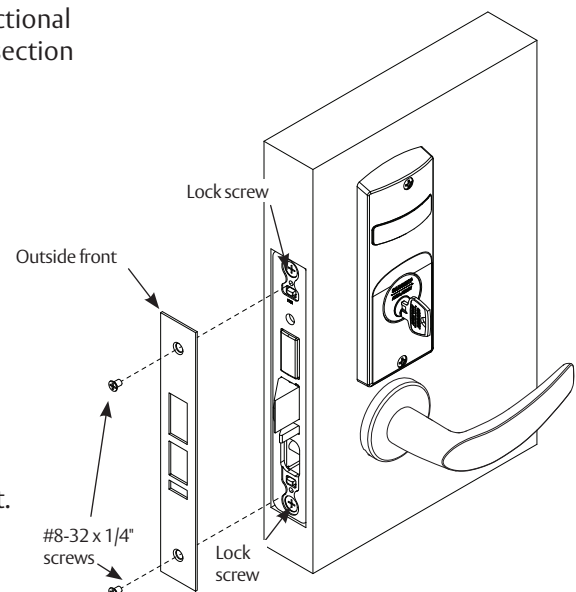

Figure 13
- Tighten the two (2) lock screws completely: (Figure 13)
- Attach outside front with two (2) flat head screws #8-32 x 1/4".